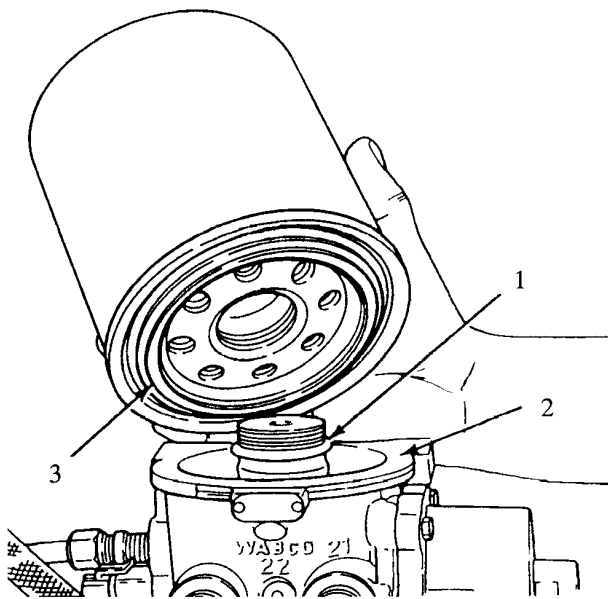

Figure 74 System Saver 1000 Air Dryer - Clean and Inspect
1. Desiccant Cartridge (Figure 74).